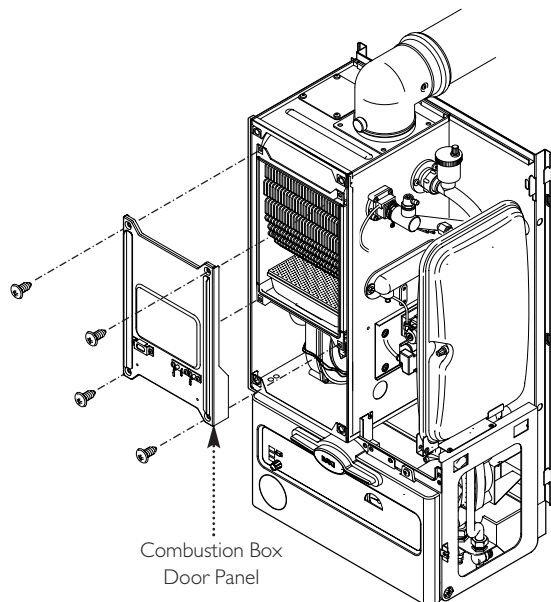

Fig. 41
8. Undo the four screws securing the combustion box door and remove the door (Fig. 41).